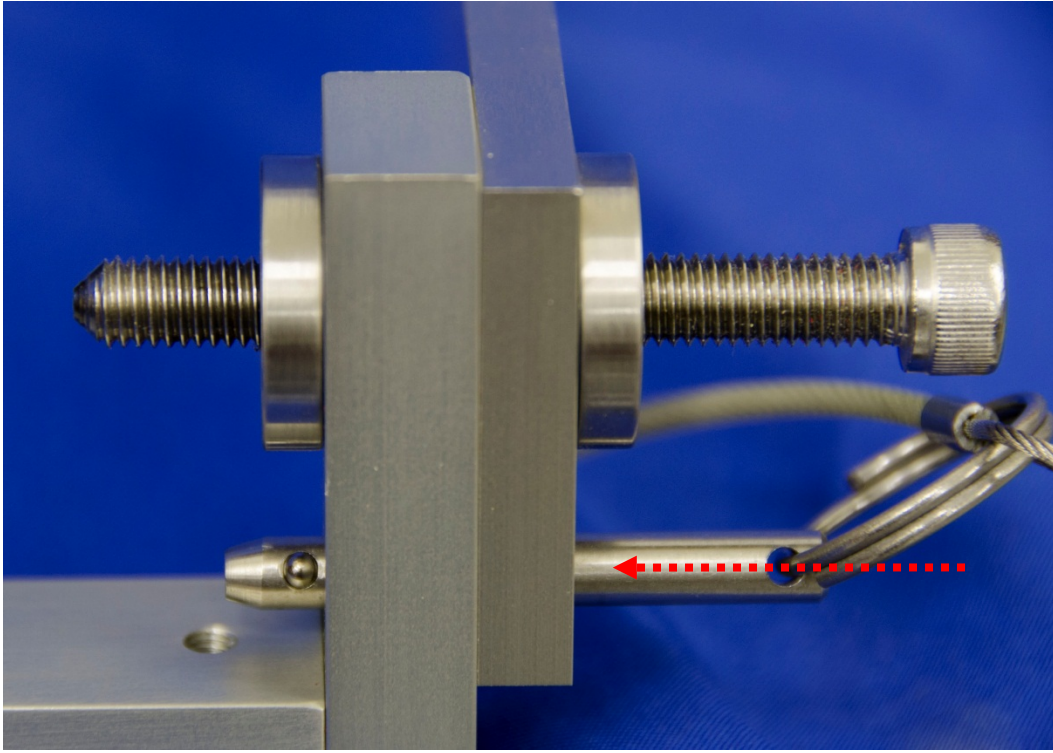
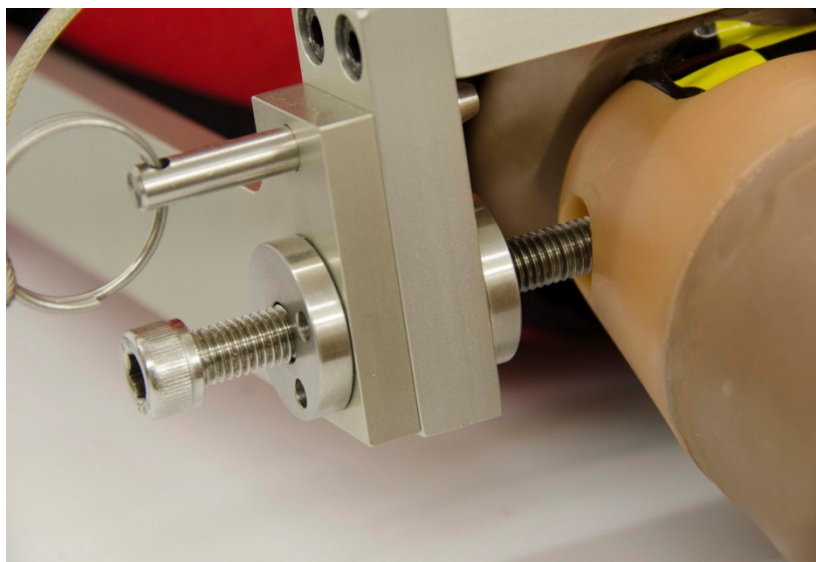

Figure 108. Insert pins into Q3s positioning device
Figure 109. Position bolts into the knee
- Pull the feet apart while hand-tightening either left or right bolt (Figure 108) until the inner side of the knee *just touches* the center spacer of the positioning tool (Figure 109).